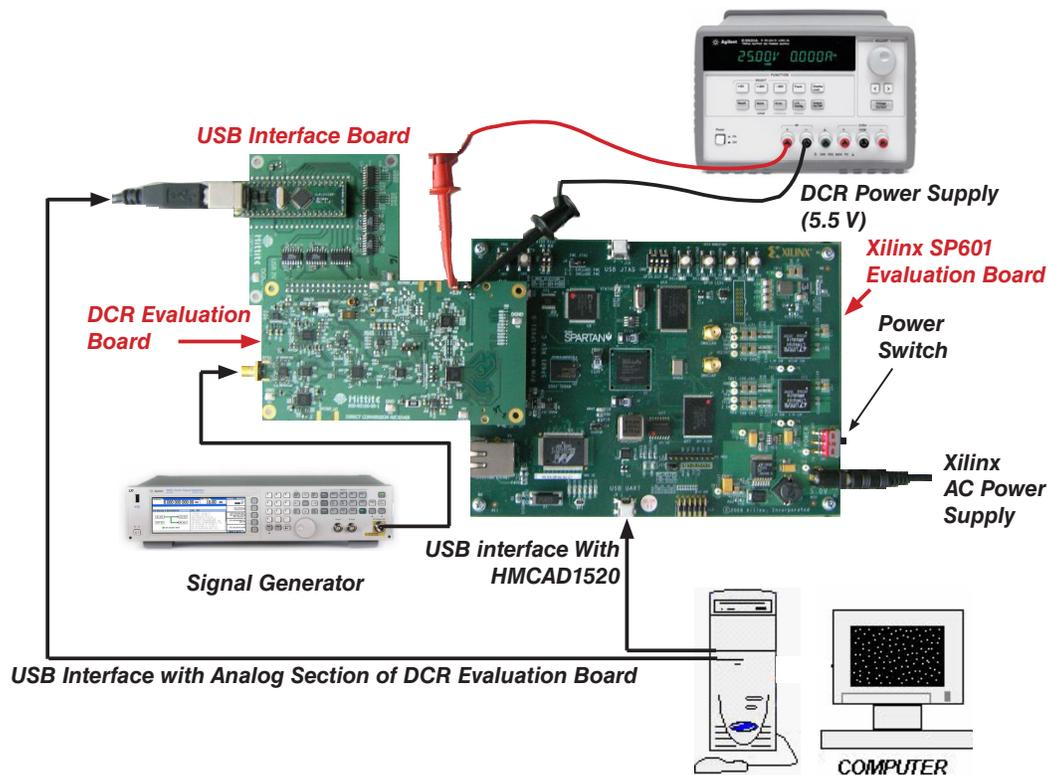

Figure 2. Hardware Setup
1. Connect the measurement setup as shown in Figure 2. In this example the RF Signal generator is configured to transmit a single carrier WCDMA signal at carrier frequency of 2120 MHz and -60 dBm output power.